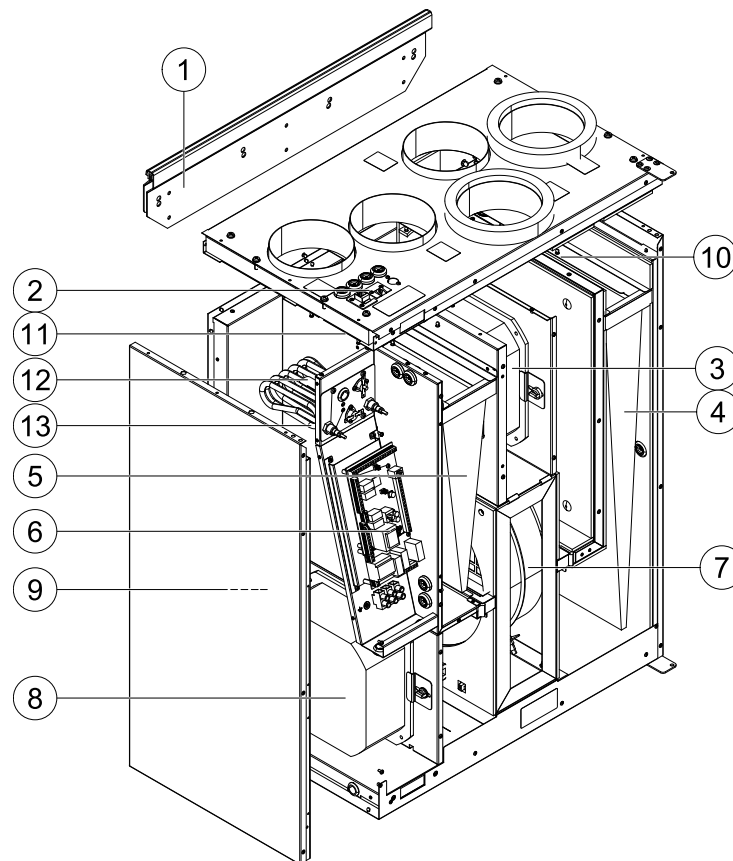

Fig. 10 Internal components
The fans (pos. 3 and 8 figure 10) have external rotor motors of EC type which can be steplessly controlled individually 20–100%. The motor bearings are life time lubricated and maintenance free. It is possible to remove the fans for cleaning, see “User Manual” for more information.
The main print card (pos. 6 figure 10) controls the functions and set temperatures of the unit. It is possible to connect external accessories to terminals in the print card. See wiring diagram for more information.